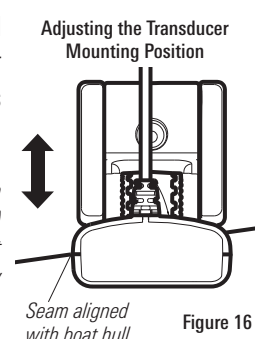

Figure 16
8. Adjust the transducer assembly vertically, until the seam on the leading edge of the transducer (the edge closest to the transom of the boat) is level and just slightly below the hull (Figure 16).
6. If you have the correct angle set on the transducer, yet lose a bottom reading at high speed, adjust the height and the running angle in small increments to give you the ideal transducer position for your boat. First, adjust the height in small increments (Figure 16).